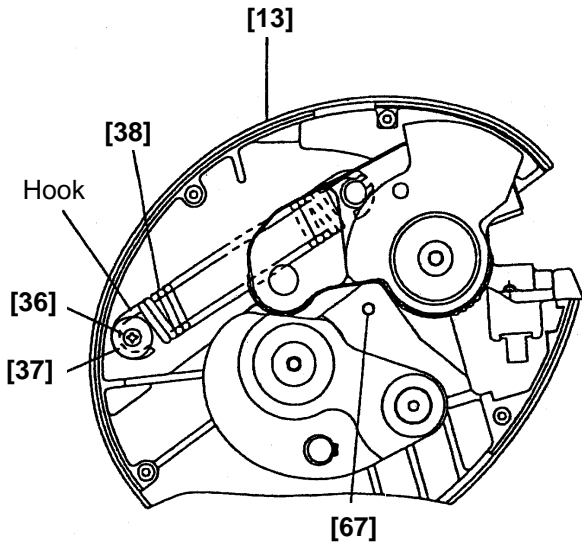

Fig. 19
(7) Removal of bracket (A), bracket (B) and covers (Figs. 19 and 20)
(4) Installation of bracket (A) and (B) unit to the inner cover (Figs. 19 and 20)